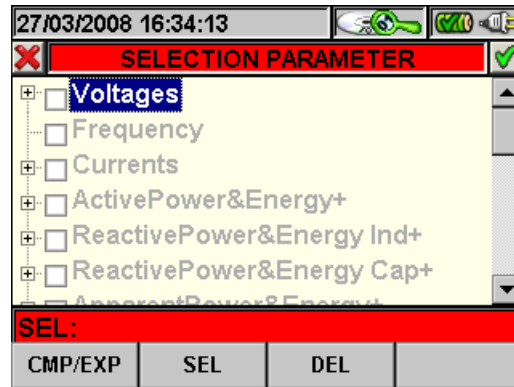

Fig. 128: Parameter selection
1. Press the **F1** key (or the **PARAM** item on the display) to access the page containing the recorded quantities available for the analysis (Fig. 128).
- **F1** key (or **PARAM** item on the display) to access the page of the selectable parameters (Fig. 128).